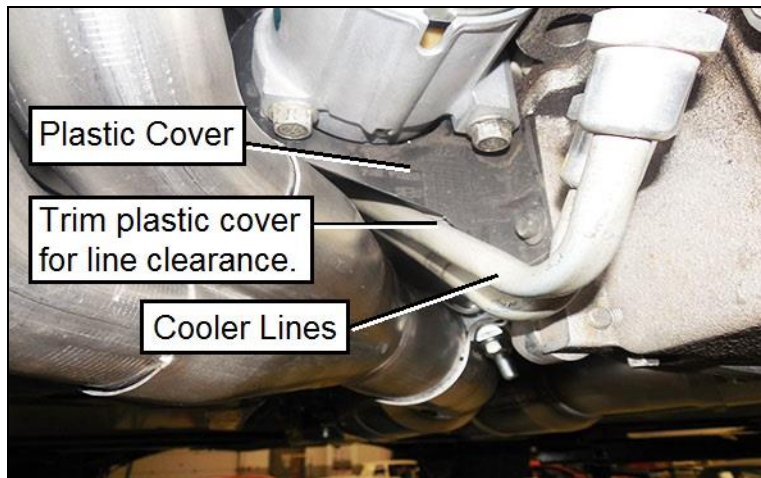

Figure 1
5. Trim the plastic cover using a utility knife to allow the cooler lines to hug the bell housing and oil pan (**Figure 1**).